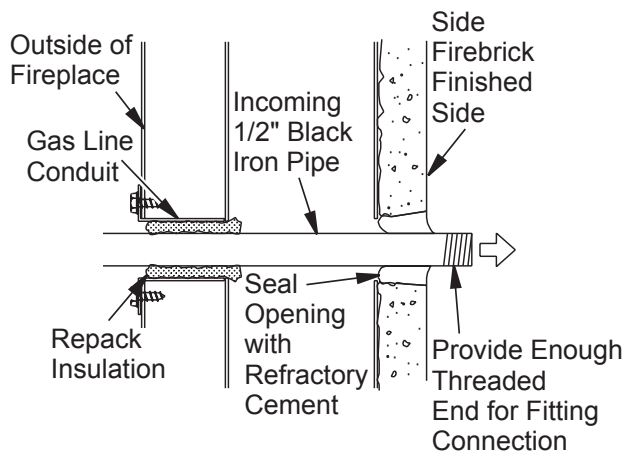

Figure 28 - Gas Line Installation
3. Run a 1/2" black iron gas line into fireplace through the rear at gas line conduit sleeve (if using a raised platform, add height). Provide sufficient gas line into fireplace chamber for fitting connection (see Figure 28, page 16).